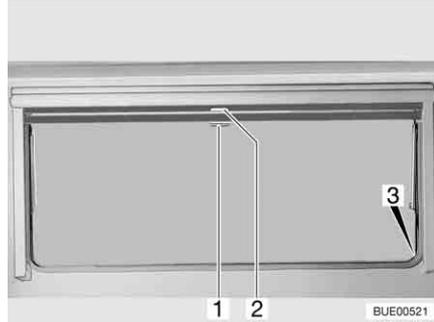

Fig. 62 Hinged window
- Pull blind at the handle (Fig. 62,2) downwards. If the blind is to be completely closed, it is suspended into the locking devices (Fig. 62,3) situated on both sides of the window frame.
- If the blind is completely closed: Press handle (Fig. 62,2) downwards and, at the same time, tilt it slightly inward. The blind can be taken out of the locking devices situated on both sides of the window frame.
- If the blind is in an intermediate position: Pull the handle (Fig. 62,2) slightly downwards until the locking device releases.
- Pull insect screen at the handle (Fig. 62,1) down and hang it into the locking devices (Fig. 62,3) situated on both sides of the window frame.
- Press handle (Fig. 62,1) downwards and, at the same time, tilt it slightly inward. The insect screen can be taken out of the locking devices situated on both sides of the window frame.